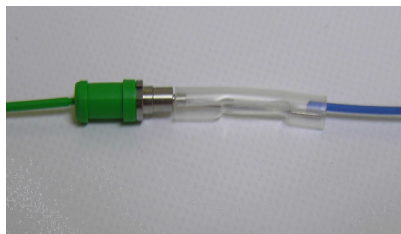

Figure 28
9. After splicing, slide on fiber protection sleeve. Fiber protection sleeve should cover lip on back of ferrule assembly. (Fig. 28)